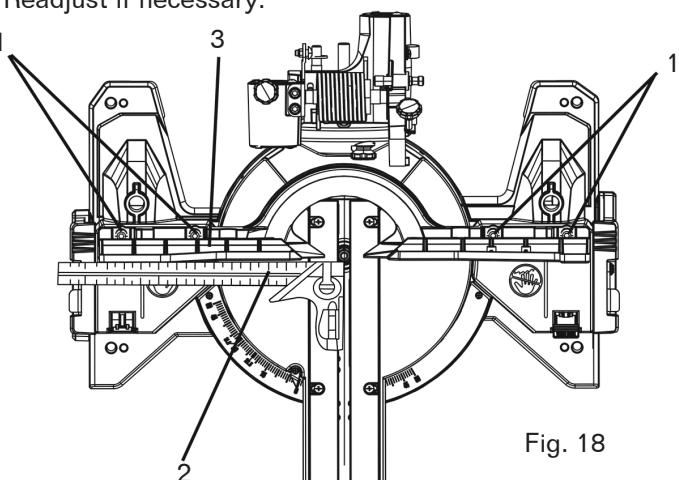

Fig. 18
ADJUSTING FENCE SQUARENESS (FIG. 18)
2. Loosen the four fence locking bolts (1).
4. Using a square (2), lay the heel of the square against the blade and the ruler against the fence (3) as shown in Fig. 18.